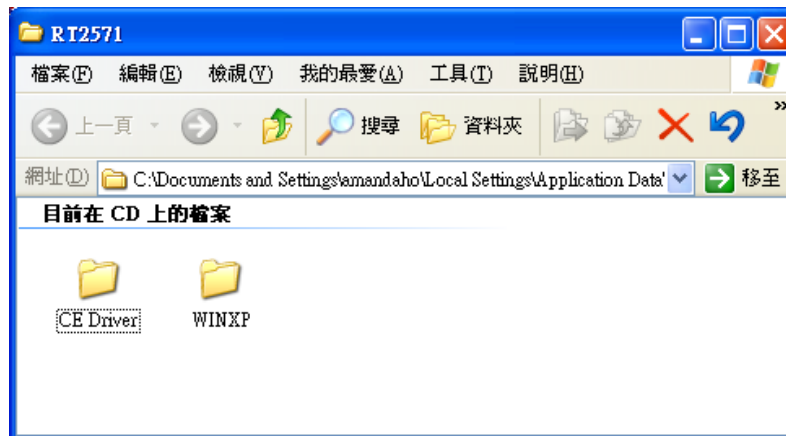

Figure 6-23: Wireless Driver OS Folders
Step 2: A new window opens (**Figure 6-23**). Select an OS folder. Double click the **Setup.exe** to install the LAN driver.